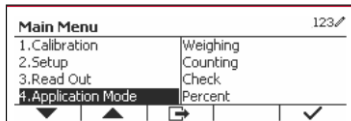

Figure 73
1. Press the  button to enter Main Menu. With the softkey corresponding to the  icon, go down list and highlight Application Mode. (See Figure 73)
2. Enter this submenu by pressing the button corresponding to the  icon. (See Figure 73)